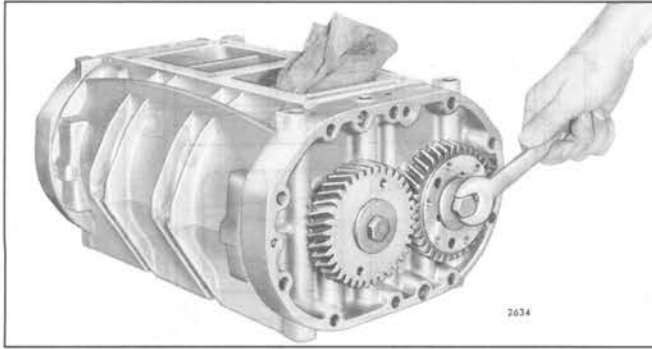

Fig. 21 – Installing Blower Rotor Timing Gears
- g. Thread a 1/2"-20 x 1-1/4" bolt with a thick washer into the end of each rotor shaft. Place a clean folded cloth between the lobes of the rotors to prevent the gears from turning (Fig. 21). Draw the gears into position tight against the spacers and shims and the bearing inner races (Fig. 21).